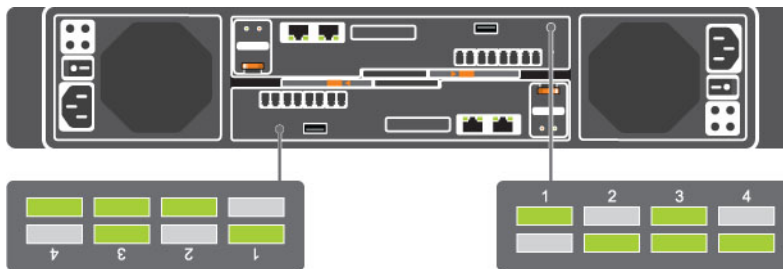

Figure 65. Storage Controller Diagnostic LEDs
5. Wait until the green diagnostic LEDs on the back of each storage controller match the pattern shown in Figure 65. Storage Controller Diagnostic LEDs. This pattern indicates that a storage controller has started up successfully.